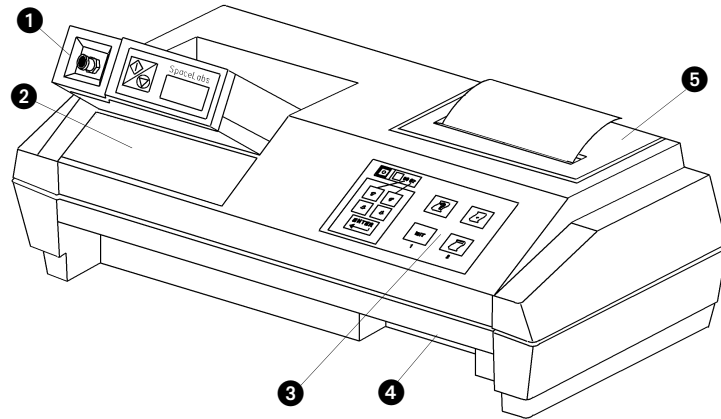

Figure 1-1: 90239A ABP Report Generator
The Data Card option (P/N 040-0549-00) permits multiple blood pressure reports to be stored to and printed from a data card that inserts into the card slot under the control panel (refer to *Figure 1-1*, item ④).
The report generator's configuration menu allows you to define certain modes of its operation according to individual requirements. Each menu item is identified on a front panel label (refer to *Figure 1-1*, item ②). To select a menu item, press the left UP or DOWN arrow key on the report generator control panel until the desired two-digit menu item appears as the left pair of digits in the ABP monitor display.